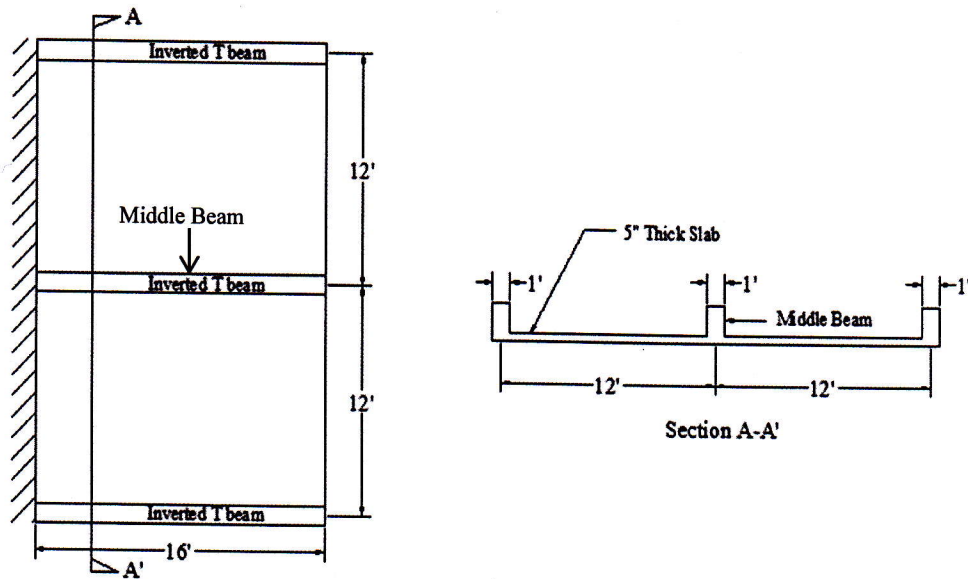

Figure 5
- (b) Explain why the maximum shear to be considered for design is computed at a distance of 'd' from the face of the support? (2)
6. A 5" thick slab is supported by 3 inverted beams as shown in Figure 5. The slab supports a floor finish (FF) = 25 psf and a live load = 100 psf. Design the middle beam for flexure. (10)